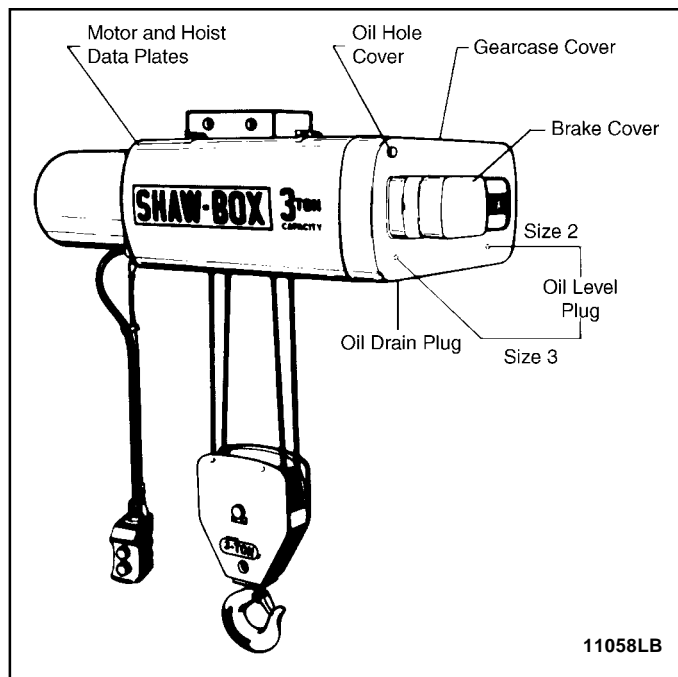

Figure 4-1. View of Hoist Showing Location of Name Plates and Oil Plugs
- Check Oil Level. (Figure 4-1) The gearcase has been filled with oil to proper level and grease points for upper and lower sheaves (when so equipped) have been lubricated at the factory. However, this should be rechecked before operating hoist.
4-2. CHANGE GEARCASE OIL. (Figure 4-1)